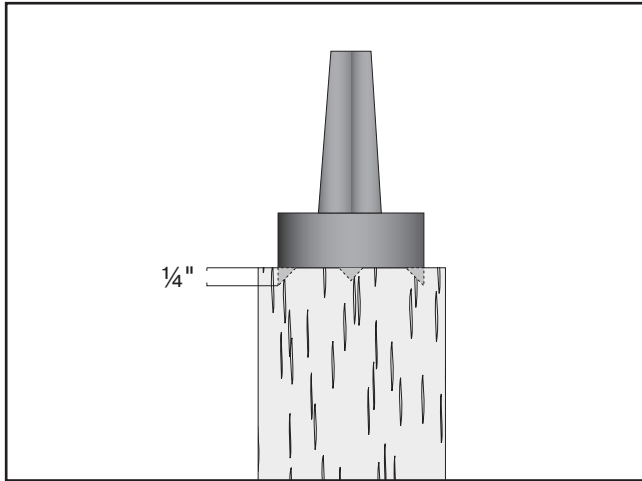

Figure 34. Spur center properly embedded.
- Use a wood mallet to embed the spur center at least $\frac{1}{4}$ " into the workpiece end center mark, as illustrated in **Figure 34**.